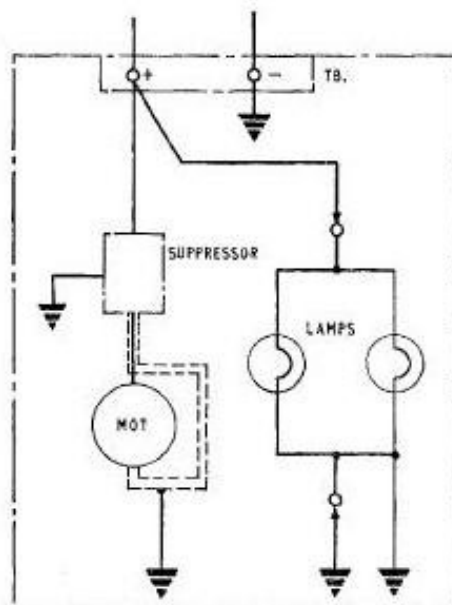

Fig. 1. Circuit diagram
1. The anti-collision lamp, Type G7740-3-24 is similar to that described and illustrated in the main chapter, but has some minor constructional differences. A circuit diagram is given in fig. 1.